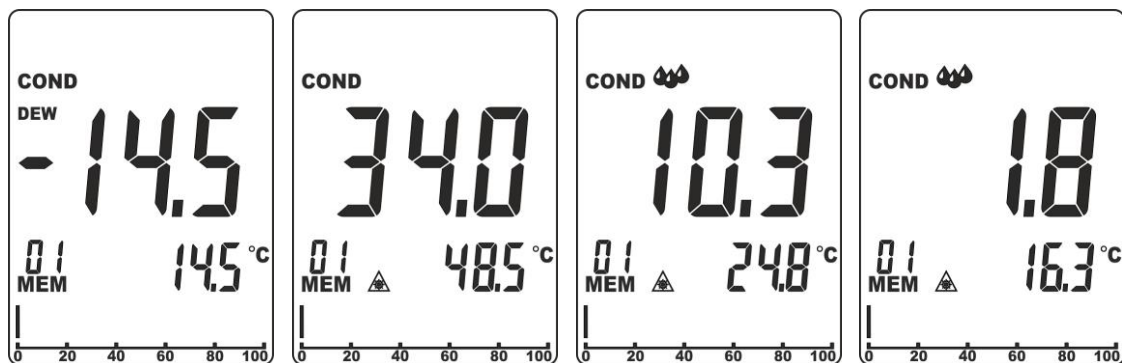

Fig. 11: Measurement of surface temperature difference
3. Press keys **RH%** and **MOI** at the same time to enter the Condensation measuring mode. The instrument shows the value of dew point temperature measured by the in-built sensor on the secondary display and indications “COND” and “DEW” appear on the display (see Fig. 11 – first screen). The main display always shows the difference between the value of IRT temperature and dew point temperature.
- If IRT temperature is **higher** than dew point temperature → **by more than 14°C (25°F)**, temperature difference (IRT-DP) is shown on the main display with no further indications (see Fig. 11 – second screen).
- If IRT temperature is **higher** than dew point temperature → **by 3°C÷14°C (5°F÷25°F)**, temperature difference (IRT-DP) is shown on the main display, indication “▲” appears on the display and the instrument gives out a sound to indicate a risk of condensation in the area (see Fig. 11 – third screen).
- If IRT temperature is **higher** than dew point temperature → **by less than 3°C (5°F)**, temperature difference (IRT-DP) is shown on the main display, indication “▲” appears on the display and the instrument gives out a double sound to indicate a high risk of condensation in the area (see Fig. 11 – fourth screen).